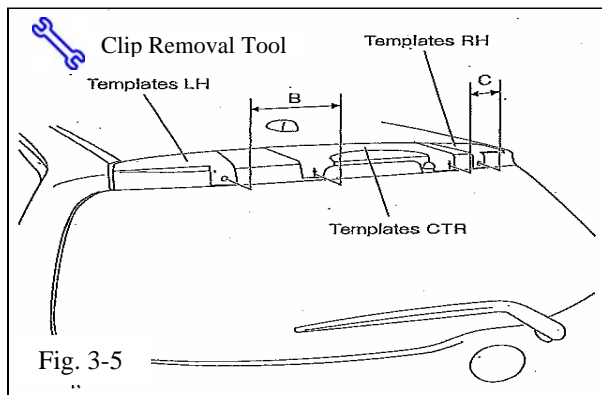

Fig. 3-5
(1) If the measured dimension does not indicate the above value, make the appropriate adjustments and reattach the CRT drilling template (Fig 3-5).